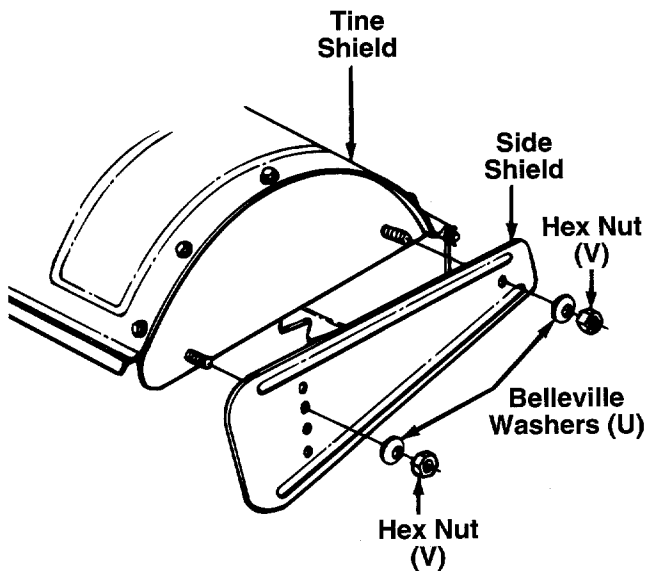

FIGURE 15.
26. Assemble the side shields to the tine shield using belleville washers (U) (cupped side against the side shields) and hex nuts (V) as shown in figure 15. The side shields will be adjusted up or down as the depth bar is adjusted. Refer to "How to Use Your Tiller" on page 9.